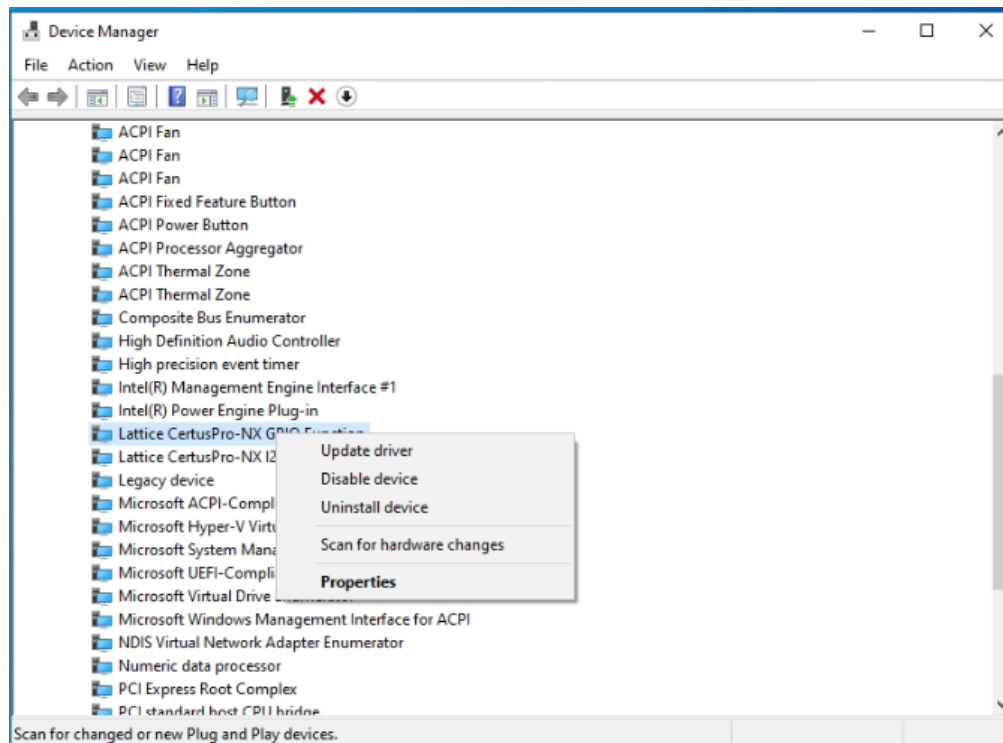

Figure 5.31. Device Manager Window
2. Right-click on the device driver and select **Uninstall device** as shown in Figure 5.31.